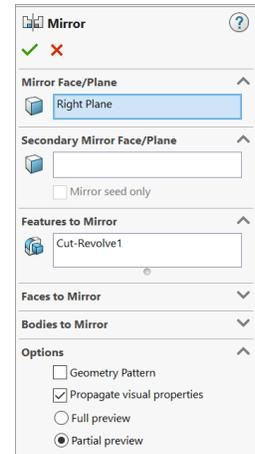

Fig. 26
Step 3. In the Mirror Property Manager click **OK**, **Fig. 26**.